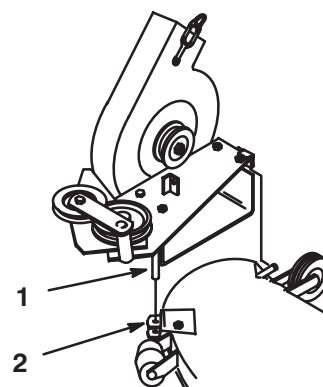

Figure 14
- Insert the pivot pin on the blower into the pivot support bracket on the mower (Fig. 14).